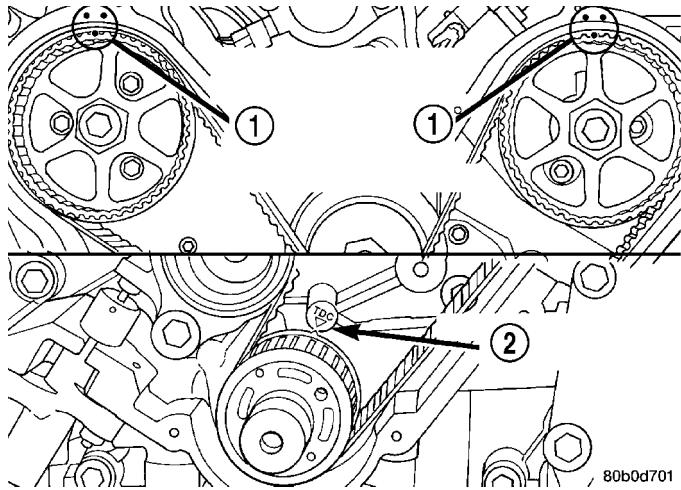

Fig. 144 Engine Timing
- (8) Rotate engine clockwise until crankshaft mark aligns with the TDC mark on oil pump housing and the camshaft sprocket timing marks are between the marks on the rear covers (Fig. 144).
(2) Align the camshaft sprockets (to reference mark made upon removal) between the marks on the rear covers (Fig. 144).